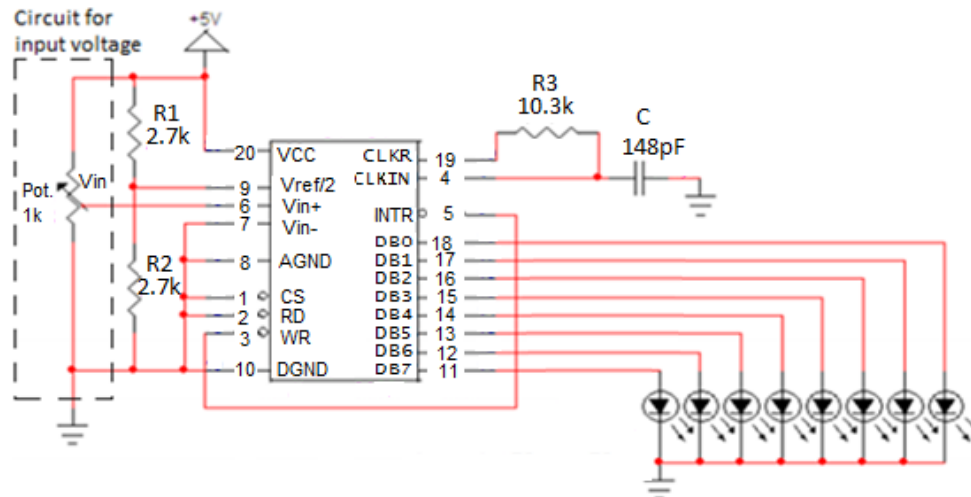

Figure 12.2: Circuit to set up ADC0804
3. Now, build the circuit of Figure 12.2 on the breadboard of logic trainer.